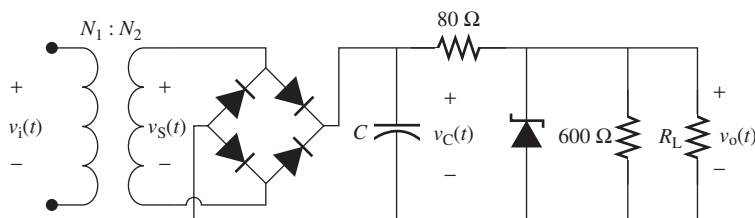

FIGURE P8.32 Circuit for Problem 8.32.
- 8.32** (H) A transformer has 200 turns of coil at its input stage and 50 turns of coil at its output stage. A voltage regulator is connected to the transformer (see Figure P8.32) to drive the load, $R_L = 300$ Ω . Given that the transformer is connected to a source, $V_S = 120 \sin(100t + 60^\circ)$ V, and the Zener voltage is 5 V, determine the capacitance required in the voltage regulator to meet the design requirements.